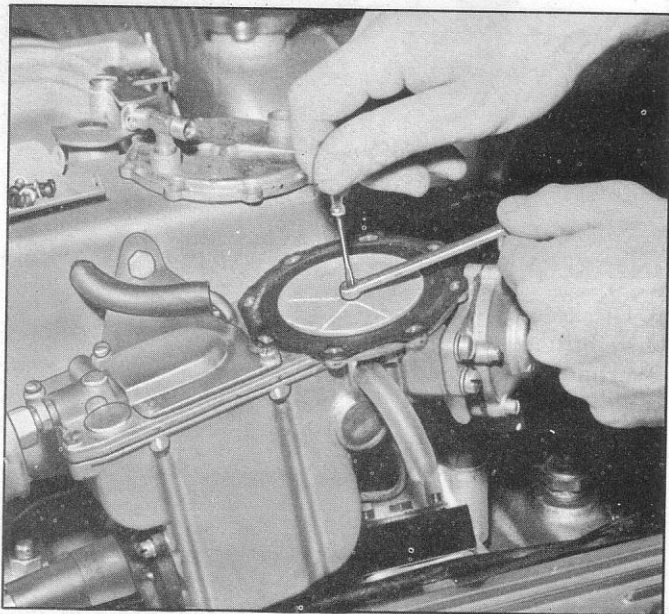

Fig. 46—Removing Main Diaphragm Retaining Nut
4. Remove nut retaining diaphragm to control link (fig. 46), remove diaphragm.